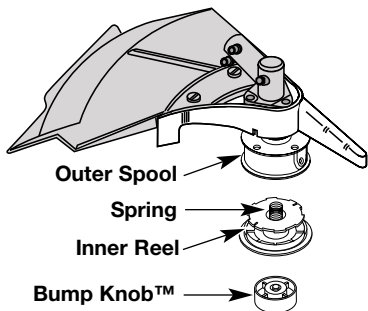

Fig. 29
1. Hold the outer spool with one hand and unscrew the Bump Knob™ clockwise (Fig. 29). Inspect the bolt inside the Bump Knob™ to make sure it moves freely. Replace the Bump Knob™ if damaged.
2. Remove the inner reel from the outer spool (Fig. 29).
3. Remove spring from the inner reel (Fig. 29).
1. Hold the outer spool with one hand and unscrew the Bump Knob™ counterclockwise (Fig. 29, Pg 21). Inspect the bolt inside the Bump Knob™ to make sure it moves freely. Replace the Bump Knob™ if damaged.
2. Remove the old inner reel from the outer spool (Fig. 29, Pg. 21).
3. Remove the spring from the old inner reel (Fig. 29, Pg. 21).